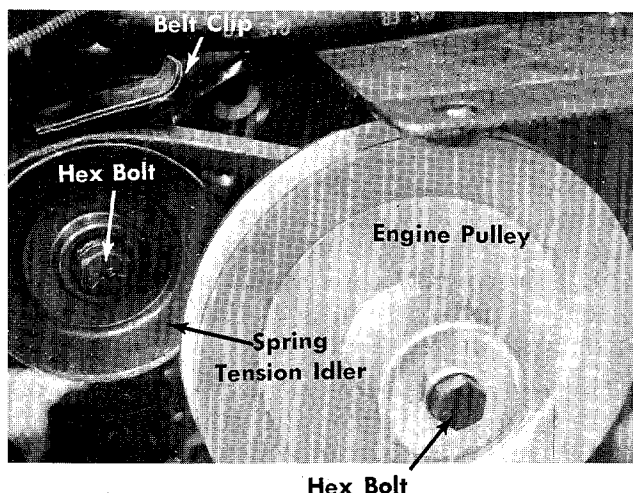

FIGURE 21 ENGINE PULLEY
- Step 3. Remove the hex bolt holding the engine pulley to the crankshaft of the engine. Pull the pulley off so the belt can be removed. See figure 21.
- Step 7. Remove the hex bolt on the engine pulley and slide the pulley and V-belt off the engine crankshaft. See figure 21.